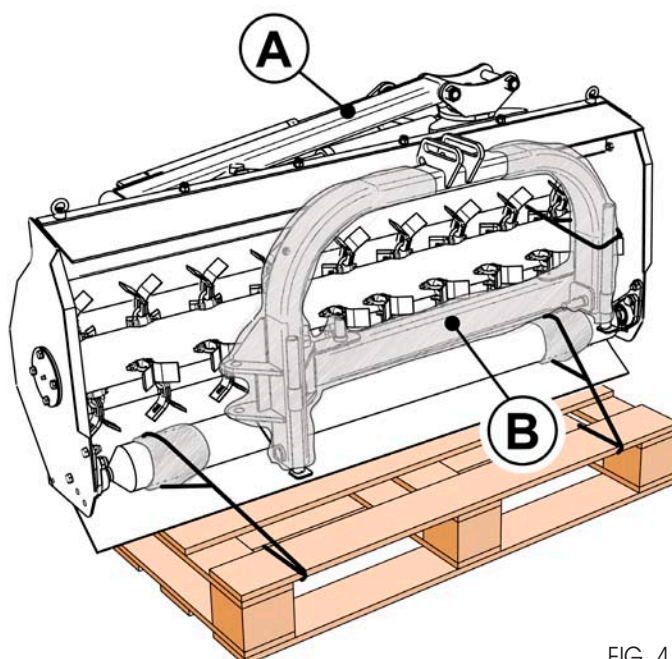

FIG. 4.2
- Fasten the third point arc in place using a strap or chain of adequate load capacity before cutting the fastening wire applied. Keep the strap or chain tight in order to prevent the part from falling. Whenever chains are used, insert the lifting hook into the hole (C) provided in the third point arc. Connect the third point arc, lift it up, and then lay it flat on the ground in a safe position that will not interfere with machine assembly operations.
- Then remove the packaging from the arc, which also contains a rotation arm (B) that must be fastened to the machine rotation attachment with an arm already assembled (A) (see FIG.4.2.).